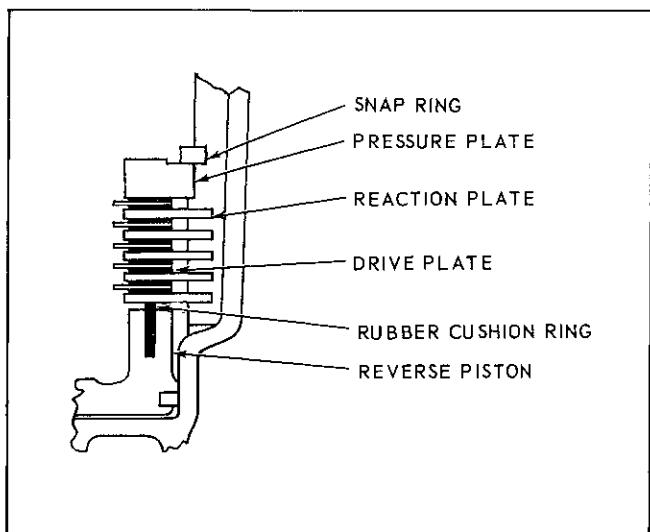

Fig. 7F-89 Reverse Clutch Pack Assembly Sequence
4. Compress reverse piston return springs, using spring compressor J 9542 and adapters until snap ring groove is exposed (Fig. 7F-87). Install snap ring and remove tool.